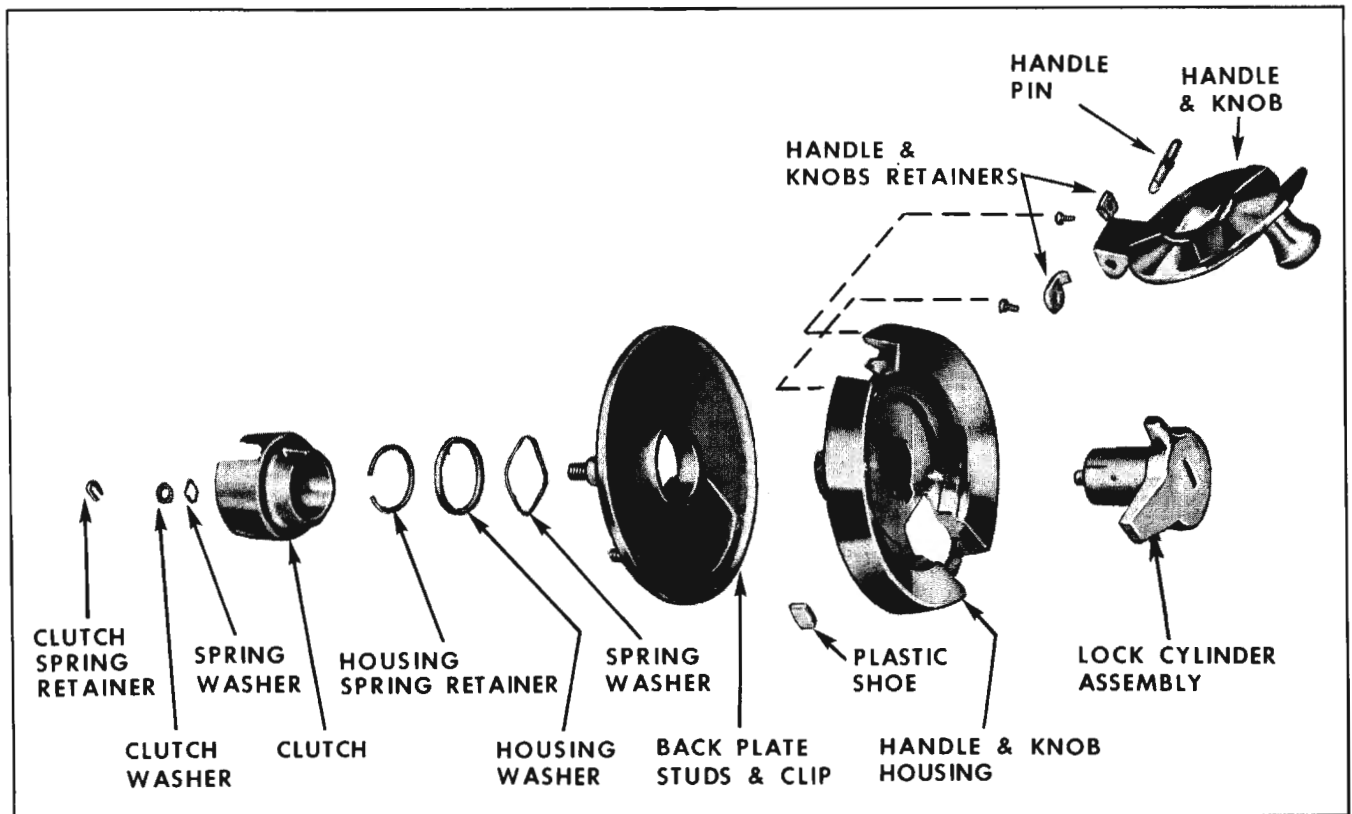

Fig. 16-196 Window Regulator Outside Handle Assembly
#### Disassembly and Assembly (Fig. 16-196)
2. Using an awl, remove clutch spring retainer; then remove clutch washer and spring washer, and remove clutch and lock cylinder assembly from unit. (Fig. 16-196)
NOTE: Plastic shoes can be removed from handle and knob housing by carefully prying shoes from housing. (Fig. 16-196)